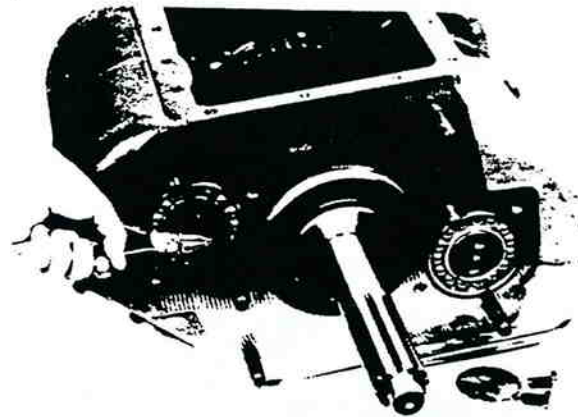

Figure 13-42. Retaining Ring Removal.
3. Cut lockwire and remove the two capscrews and retainer plate from the front of each countershaft. For models equipped with bearing retaining rings in groove of countershafts, remove retaining ring from groove in both countershafts (figure 13-42).